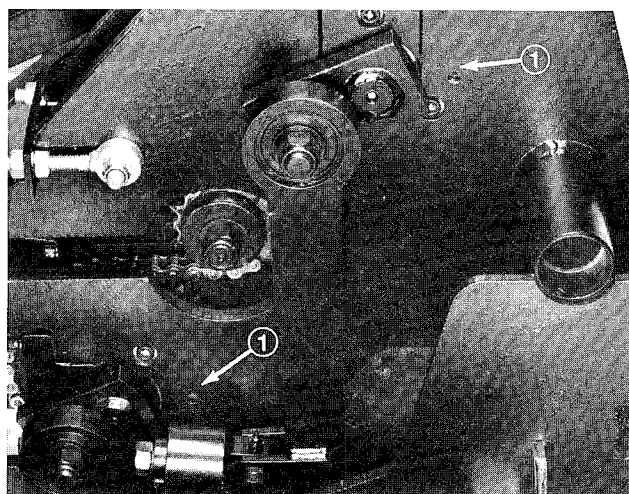

Figure 47
1. Locate the four (4) timing holes, two (2) on each side of coring head and on crank sprockets (Fig. 47).